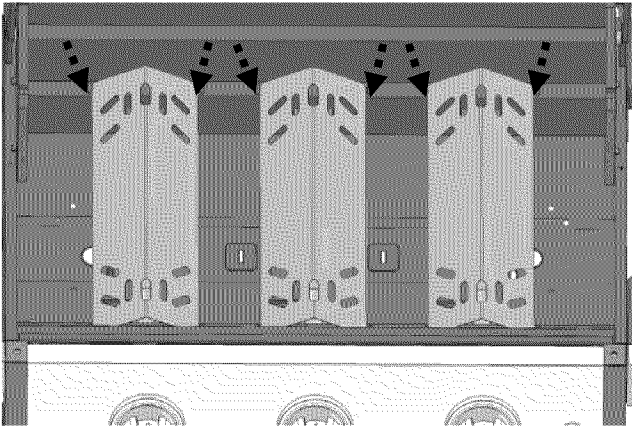

Figure 1
- Insert the Heat Diffusers into the firebox by placing them into the indentations along the front and back of the firebox. See Figure 1.